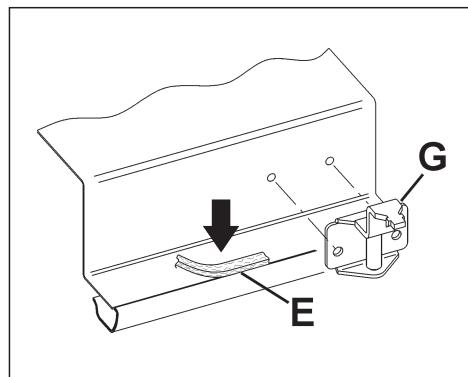

FIG. 5
- remove the clamps "G" from the package and install them according to the diagram in fig. 5.
- Put the gasket "E" (fig. 5) in the correct position under the edge of the table top, so that the outer side of the gasket fits perfectly with the external perimeter of the worktop. The ends of the strips must fit without overlapping.